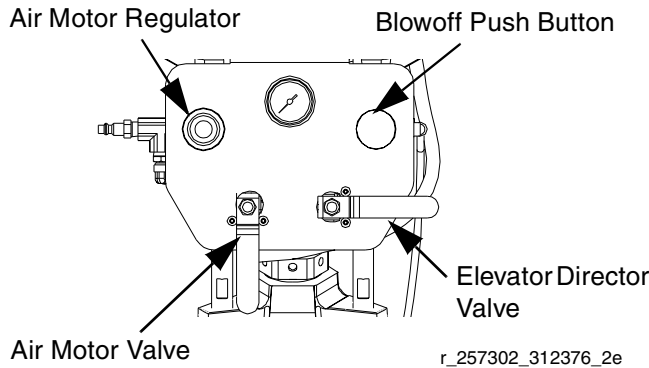

FIG. 10: L20c Air Controls
11. Use the air motor regulator (see FIG. 10) to control the pump speed and the fluid pressure. Always use the lowest air pressure necessary to get the desired results. Higher pressures cause premature tip/nozzle and pump wear.